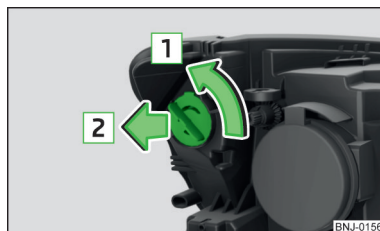

Fig. 211
- › Turn the socket with the bulb in the direction of arrow **[1]** » Fig. 211.